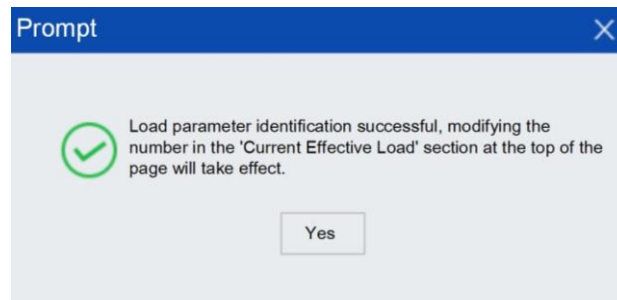

Figure 5-112 Prompt window
Step6.After successful identification, the interface shown in Figure 5-112 will pop up, click <Yes>.